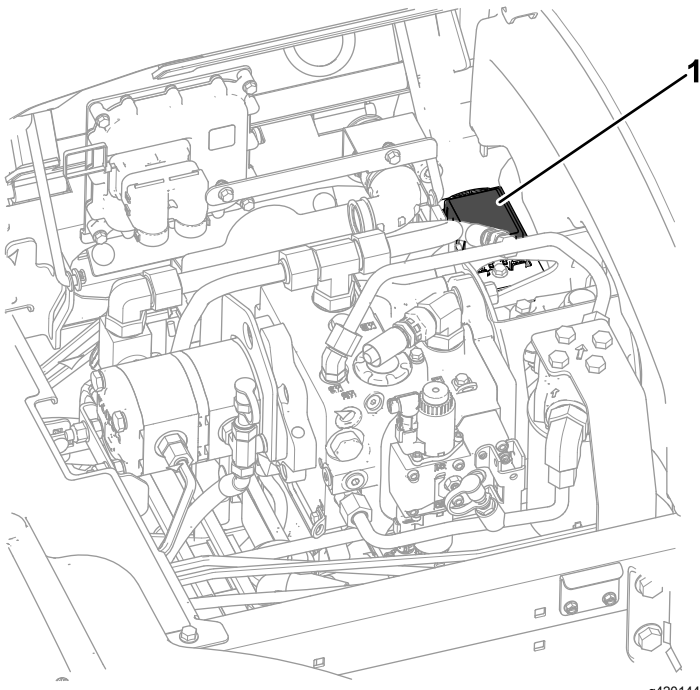

Figure 94
3. Replace the open fuse (Figure 94) with the same fuse type and amperage rating.